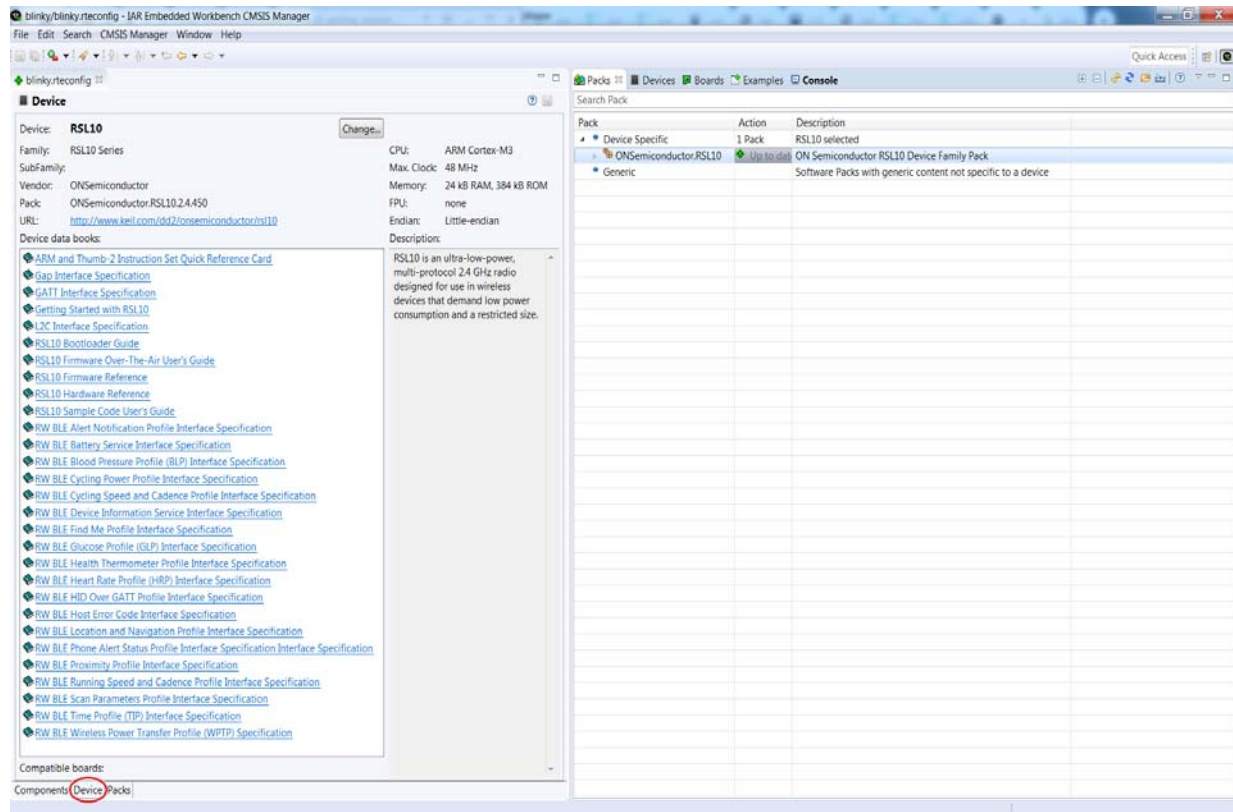

Figure 51. Accessing RSL10 documentation from the IAR Embedded Workbench
- IAR Embedded Workbench: documentation is accessible through the **IAR Embedded Workbench CMSIS Manager** window, as shown in Figure 51 on page 44.